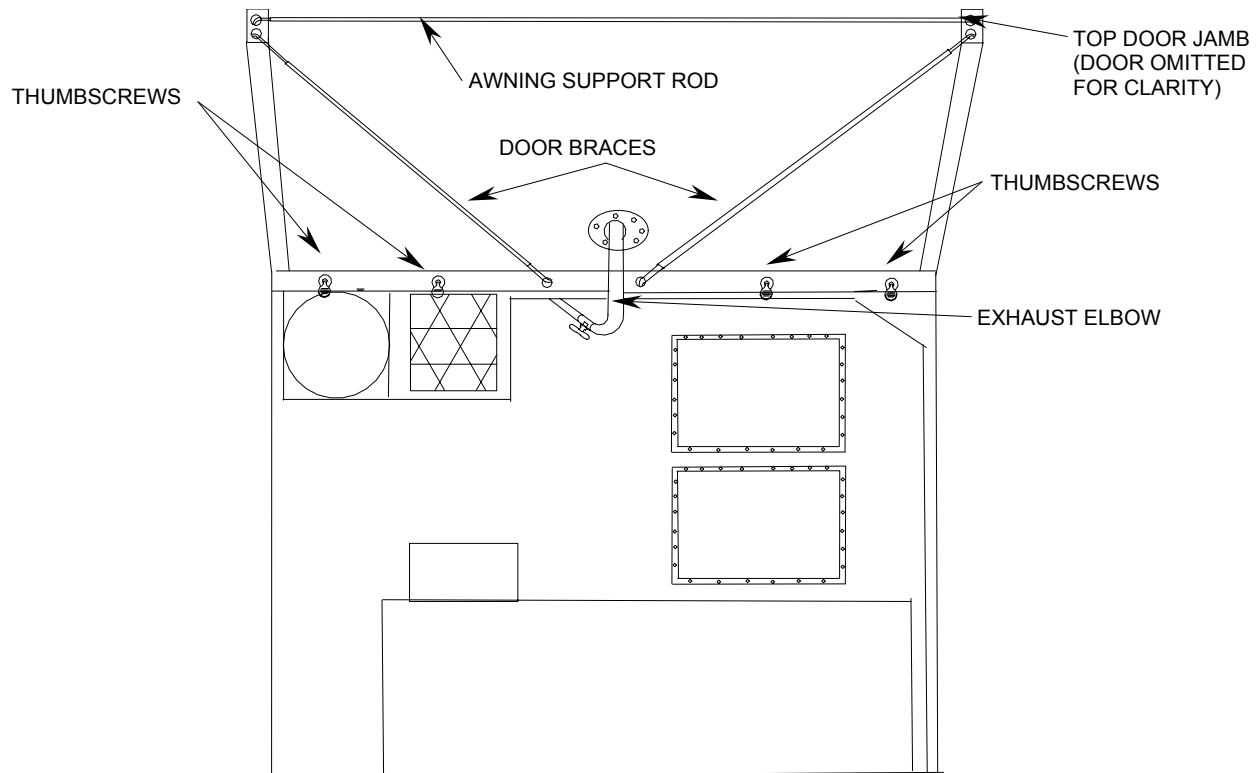

Figure 11. Awning Installation.
3. Retrieve the awning from its storage location on top of the generator. Referring to Figure 11, attach the awning by screwing the four thumbscrews into the threaded holes along the top jamb of the mechanical room door frame.